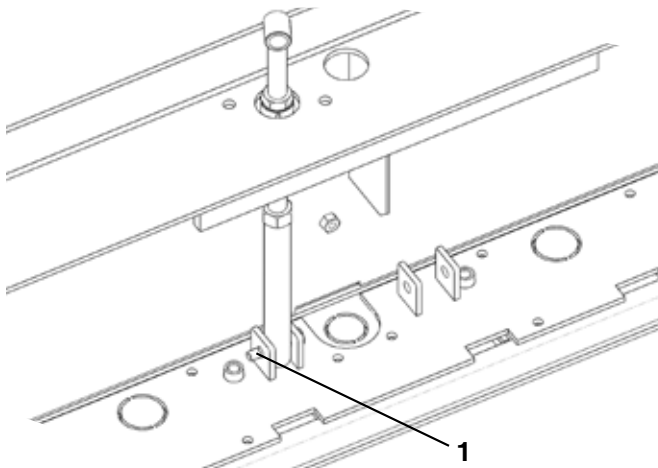

Figure 5-4. Wear Plate Shoulder Bolts
4. Remove shoulder bolts out of lower adjustment screws on top of wear plate (**Figure 5-4,1**).